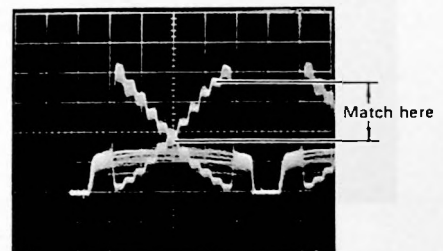

Fig. 4-4-46
- Adjust B. TRACKING-3 VR202 so that the B signal matches the YL signal in the 8th ~ 9th step of gray scale waveform. (Fig. 4-4-46)